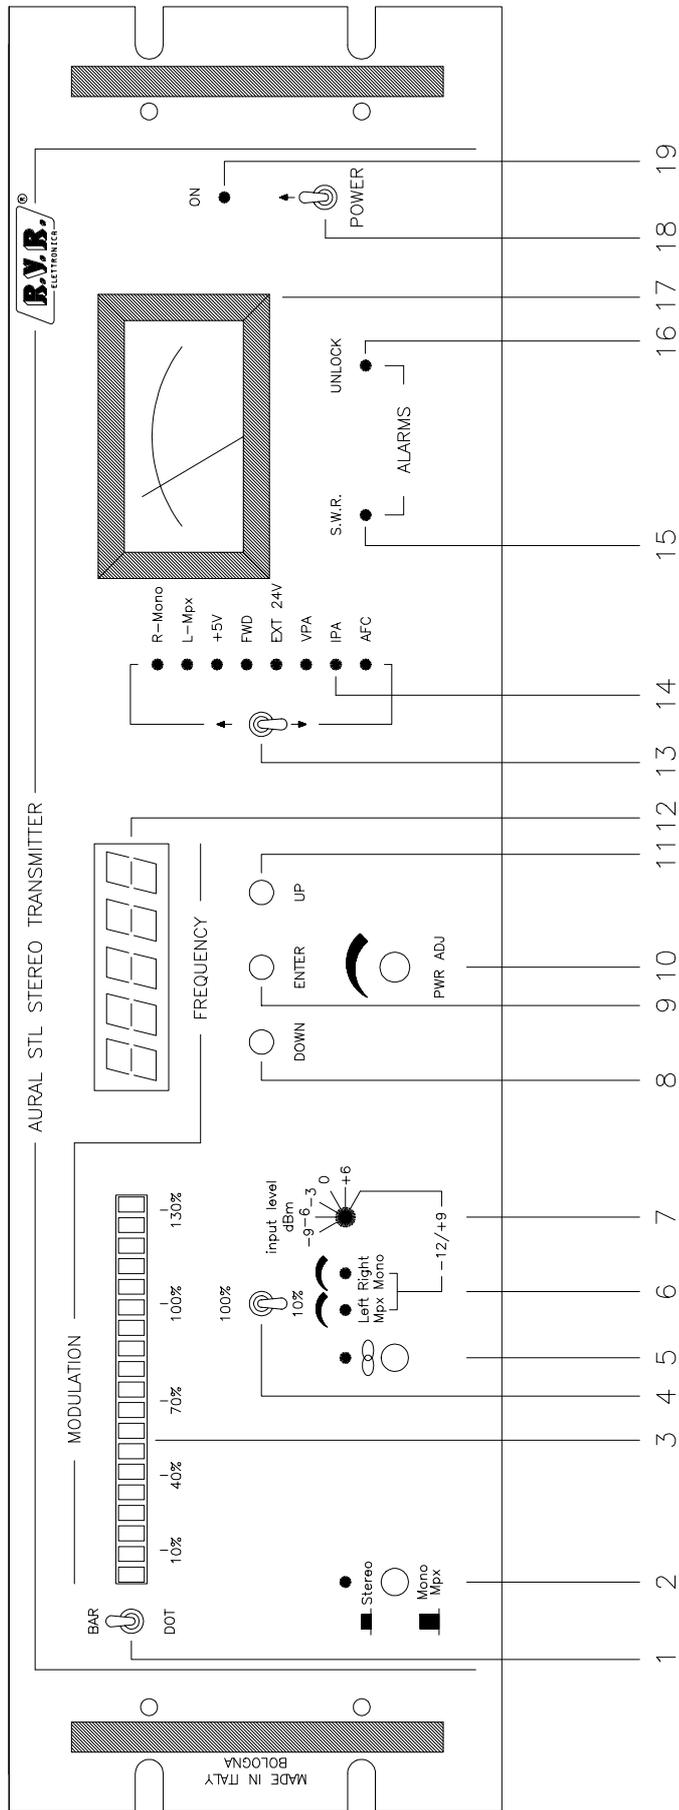

FIG. 1
The transmitter's operating parameters can be measured with the analog multimeter (17 Fig.1) and the led bar-graph display (3 Fig.1) situated on the front panel.
The measurement being made by the analog multimeter is indicated by a led indicator (14 Fig.1) and selectable via the corresponding control (13 Fig.1).
Peak deviation can be measured with the bar-graph display (3 Fig.1) with a resolution of 5%.
The five-figure display (12 Fig.1), mounted centrally, indicates the operating frequency selected by the UP (11 Fig.1) and DOWN (8 Fig.1)
controls and saveable with the ENTER (9 Fig.1) control. Two alarm conditions leds provide indication of VCO unlocked (16 Fig.1) and excess standing waves on the output (15 Fig.1).
This circuit comprises two cards and a meter mounted on the right hand side of the front panel (Photo 1-2). This sub-assembly displays the values of various operating parameters of the transmitter: internal voltages and currents, direct power and external 24V. The parameters are selected by a lever switch (13 Fig.1) and the selection is indicated by the legend of the green led (14 Fig.1).
This circuit also features a red UNLOCK led (16 Fig.1) and a red SWR led (15 Fig.1), controlled by the power supply. In addition there are: a red power led (19 Fig.1), a power output PWR trimmer (10 Fig.1) and the mains supply switch (18 Fig.1).
(Fig. 1)
- 4) Switch the power switch (18 Fig.1) to the OFF position.
- 6) Switch the power switch to the ON position and check that the green POWER ON led (19 Fig.1), the red UNLOCK led (16 Fig.1) and the led corresponding to the parameter selection PWR FWD (14 Fig.1), are all lit.
After a few seconds the central display (12 Fig.1) will come on and display a number (eg. 1790.00) corresponding to the last operating frequency to have been programmed.
To change this number, use the UP (11 Fig.1) and DOWN (8 Fig.1) buttons to respectively increase it and decrease it.
Once the desired frequency has been found, press ENTER (9 Fig.1) to confirm and save it.
To make this measurement, ensure that the PWR ADJ led is on by setting the meter switch (13 Fig.1) to the corresponding position and then take the reading from the 50W FDS scale on the meter.
Set the modulation bar-graph display gain (4 Fig.1) to 100%.
Inject a 400Hz tone at a level of -10 dBm for the european version or 0dBm (775mV RSM = 2.2V peak to peak) for the american version. Check that the bar-graph display (3 Fig.1) lights upto the first red led, indicating 100% deviation.
With the DOT/BAR switch (1 Fig.1) in the BAR position, all the green leds and first red led will be on; in the DOT position only the first red led will be on.
Now disconnect the audio generator and ensure that all the bar-graph leds go out (3 Fig.1).
Set the control (4 Fig.1) to 10% and inject a 400Hz tone of -30dBm (-20 dBm for the american version) and repeat the proceeding operation. The procedure should be followed first for the MONO input and then for the STEREO input.